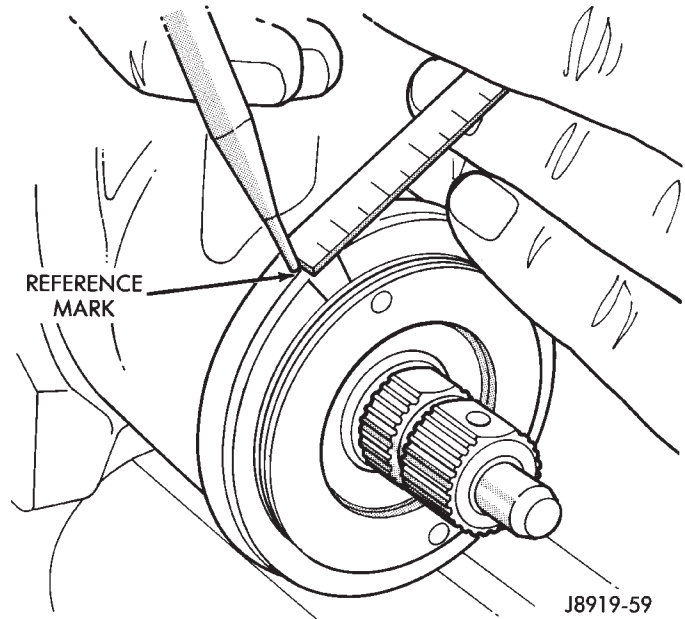

Fig. 10 Remarking The Housing
(4) Measure back (counterclockwise) 13 mm (0.50 in) and mark housing (Fig. 10).